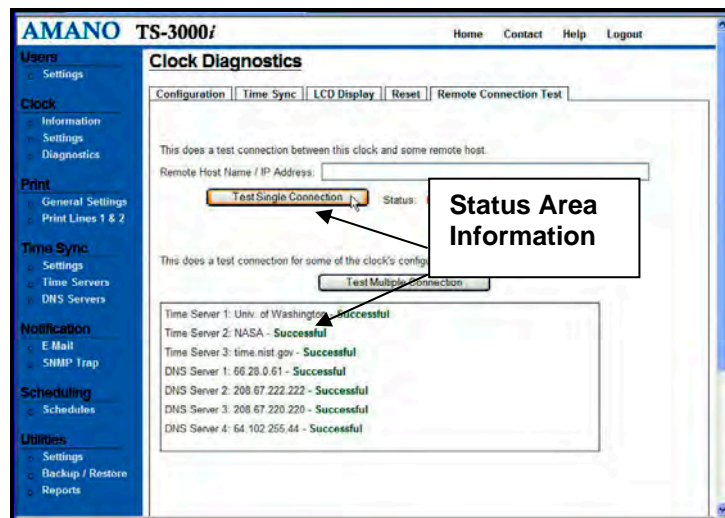

Figure 7-6. Remote Connection Test.
Step 1. Click on the **Diagnostics** link under **Clock**, and the **Clock Diagnostics** screen will appear. Then click on the **Remote Connection Test** tab and the Remote Connection Test screen will appear (see *Figure 7-6*).